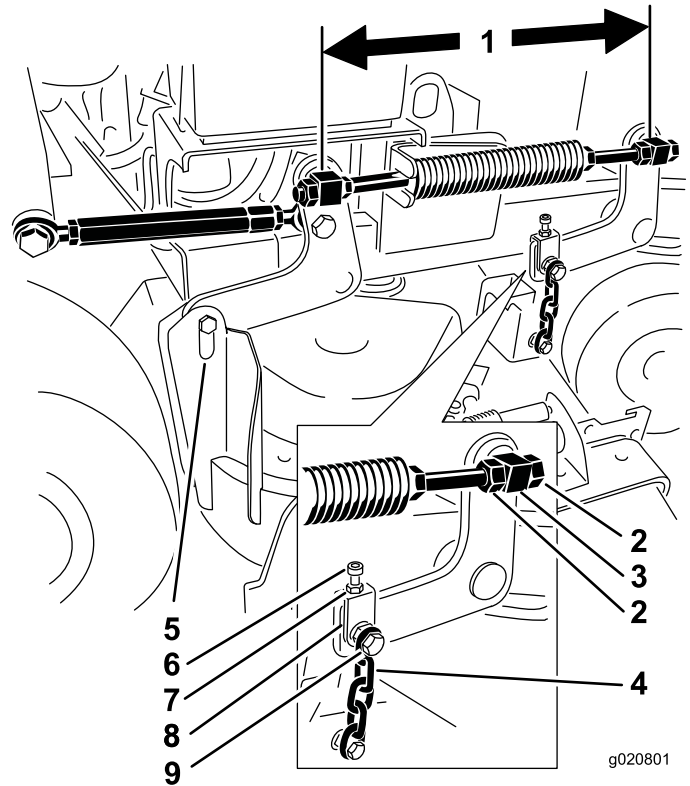

Figure 82
6. Check the distance between the swivels, measuring at the center of the swivels (center-to-center length) on each threaded rod (Figure 82).
11. If adjustment is needed, loosen the upper chain bolt (Figure 82).
5. Loosen the upper chain bolts (Figure 82).